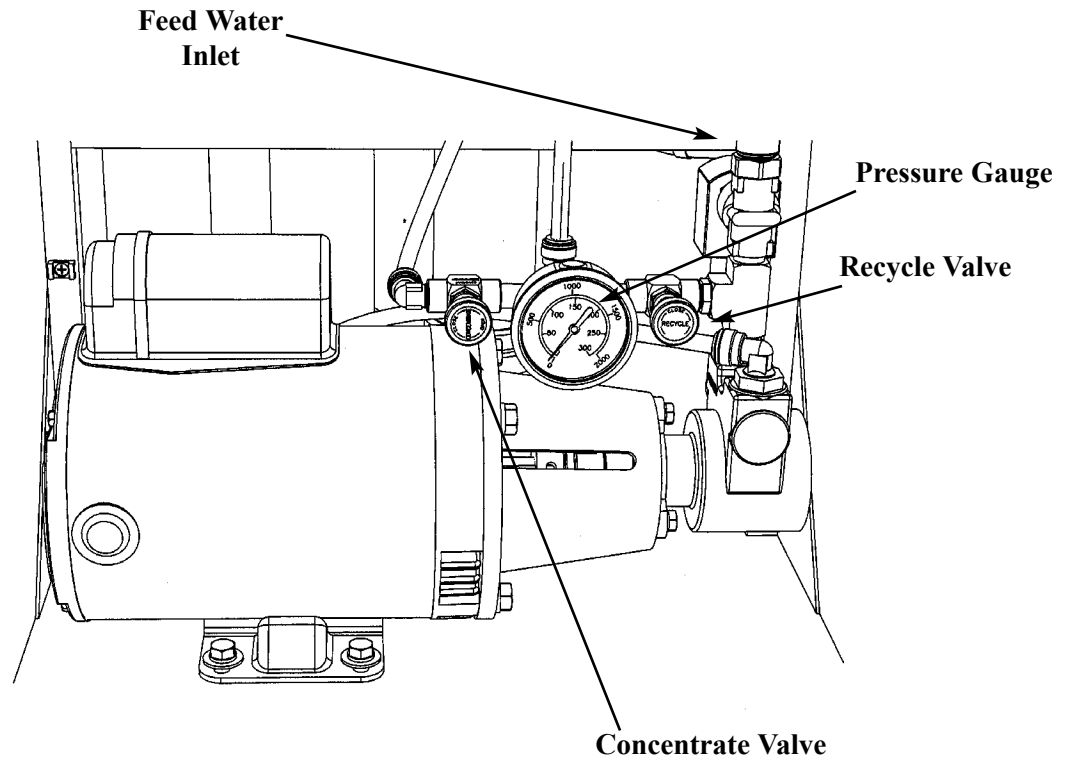

Figure 2.1
5. Open the concentrate and recycle flow control valves two (2) complete turns. These valves are positioned on the flow control plumbing (Figure 2.1, Flow Control Center).
7. As the pump starts to build pressure, begin to adjust the valves in the following manner: start by slowly closing the concentrate valves while slowly opening the recycle valve (Figure 2.1, Flow Control Center).
1. With the machine running, open the concentrate valve 1/2 -3/4 of a turn (Figure 2.1, Flow Control Center).